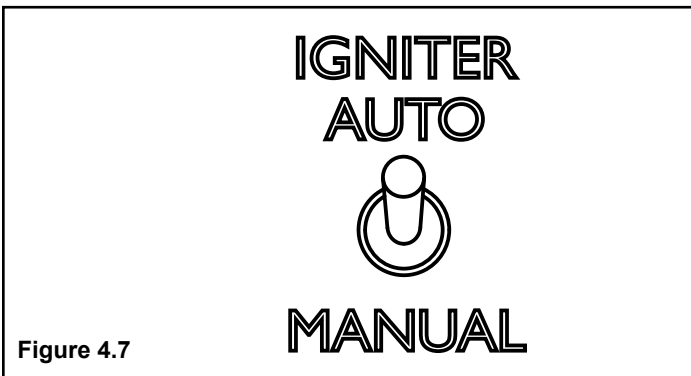

Figure 4.7
3. Flip the Igniter Switch up into the “AUTO-LIGHT” position, Figure 4.7.